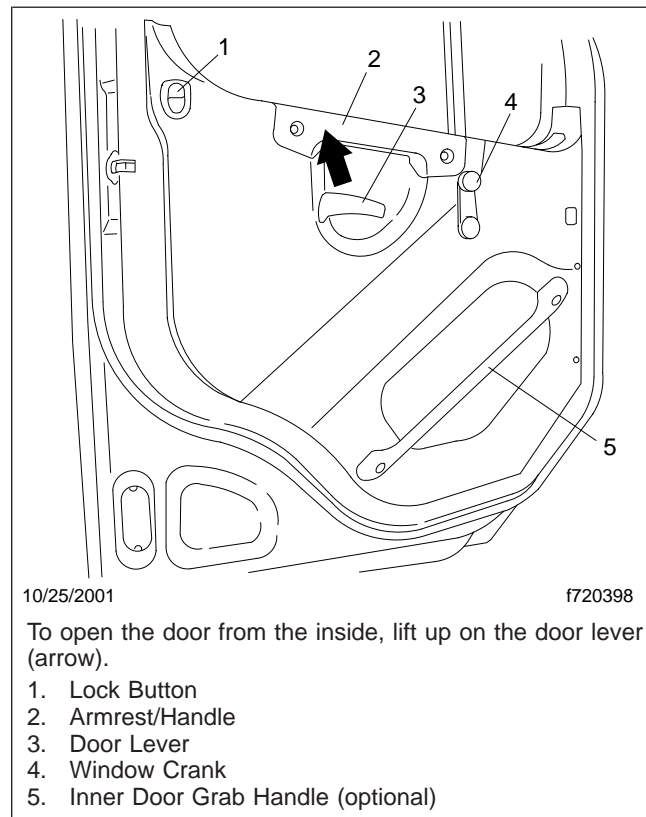

Fig. 2.2, Door Interior
- Push down the inside lock button (**Fig. 2.2**). Close the door.